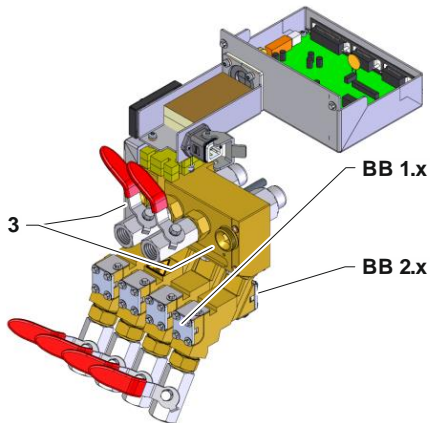

Fig. 3: Flow-5 with ball valve
- If present disassemble the shut-off valve OUT 1 and 4 (Label 3 → Fig. 3).